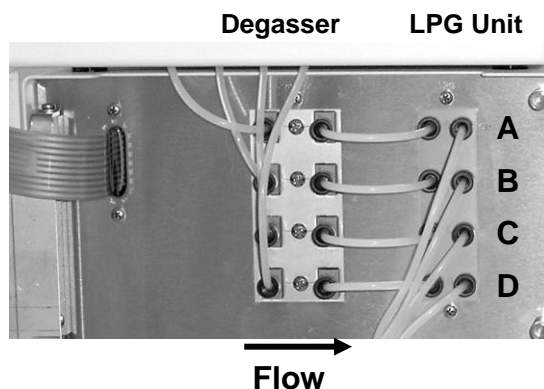
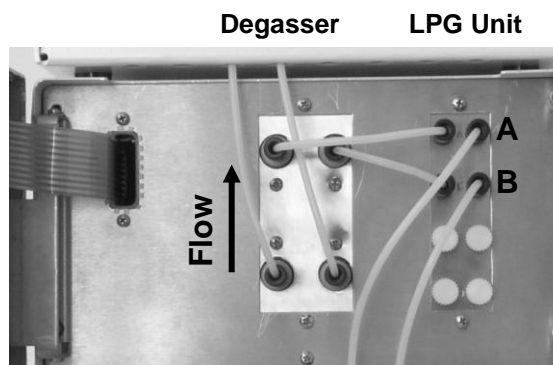

Figure 6 *Degasser Tubing Connection, analytical version*
Figure 7 Degasser Tubing Connection, semiprep. Version
Depending upon the model, there are 2 or 4 degassing channels. Pairs of female ¼-28 connectors are located on the front of the Vacuum Degasser module on the Smartline Manager 5050. These are the input and output ports for running up to 4 solvent lines through the Vacuum Degasser. Each channel has an input port and an output port on the same level. In Figure 6 and Figure 7 the connection of both degasser units with LPG unit is shown.
4. The analytical version is to be connected horizontally → and the semipreparative version is to be connected vertically ↑ (comparing to Figure 6 and Figure 7).